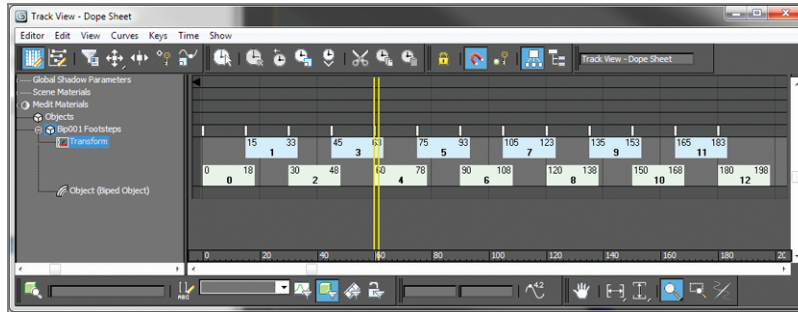

FIGURE 13.9 Zoom to the Footstep keys.
4. If necessary, click the Zoom Region icon () in the lower-right corner of the Dope Sheet window and drag a zoom window around the footstep keys, as shown in Figure 13.9. The region will expand to fit the Key pane.